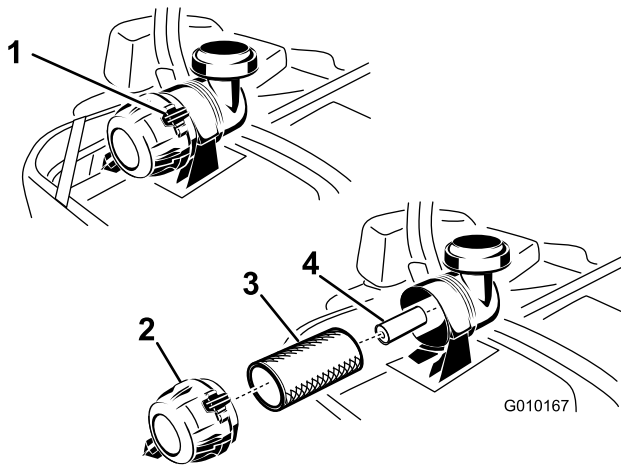

Figure 48
3. Push down to release the retaining clamps on the air cleaner and pull the air cleaner cover off of the air cleaner body (Figure 48).
5. Gently slide the primary filter out of the air cleaner body (Figure 48). Avoid knocking the filter into the side of the body.
1. Do not clean the paper filter, replace it (Figure 48).
2. If the secondary filter is being replaced, carefully slide it into the filter body (Figure 48).
3. Carefully slide the primary filter over the secondary filter (Figure 48). Ensure that it is fully seated by pushing on the outer rim of the filter while installing it.
4. Install the air cleaner cover with the breather cap down and rotate so the retaining clamps lock the cover in place (Figure 48).